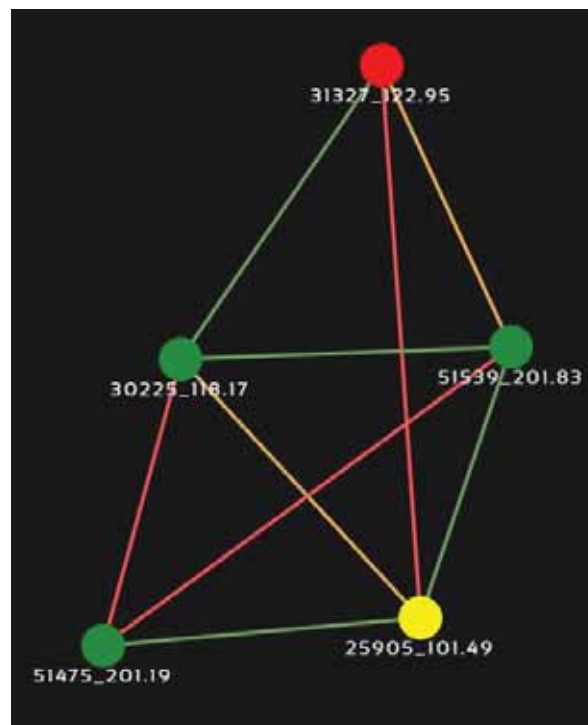

Figure 42 Example Network Topology
- **Color Coded Link Health** – Color coding of each link in the network allows the user to quickly identify the weak links within a network. A link between two nodes will transition from green to yellow to red as the link weakens while also displaying the SNR of the link. This can be seen in **Figure 42 Example Network Topology**.
- **Route Health** – The Silvus StreamScope Utility will alert the user when too many packets are being routed through a single node. In such cases, a node will change from green to yellow to red as the packet queue increases (see ‘31327_122.95’ and ‘25905_101.49’ in **Figure 42 Example Network Topology**). This will allow the user to recognize the issue and configure the network accordingly. Table below also shows the values for each scenario.